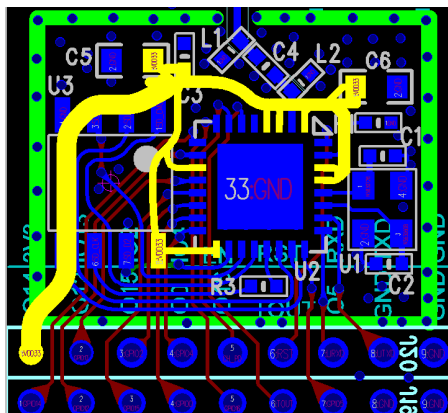

Figure 1-10: ESP8266EX PCB layout
3.3 V power lines are highlighted in Figure 1-10. The total width of the power line should be larger than 15 mil.